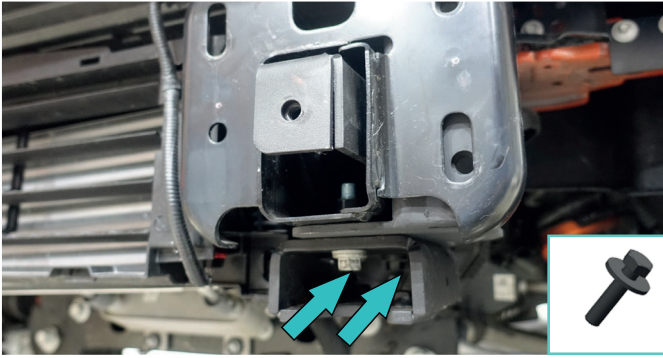

Fig.24
24. Install recovery point bracket (item 22) using factory bolts M12 as shown in fig.24.